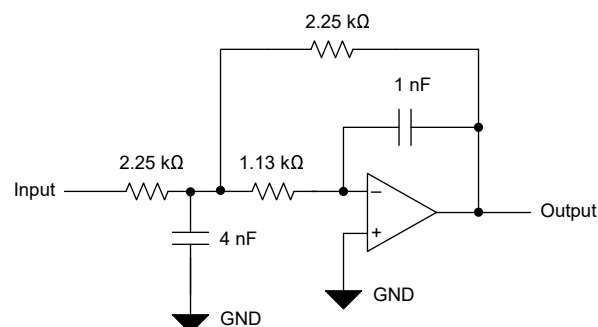

Figure 6-1. Second-Order Low-Pass Filter
- Changed Figure 1, *OPA130 Offset Voltage Trim Circuit*, to Figure 6-1, *Second-Order Low-Pass Filter* 11